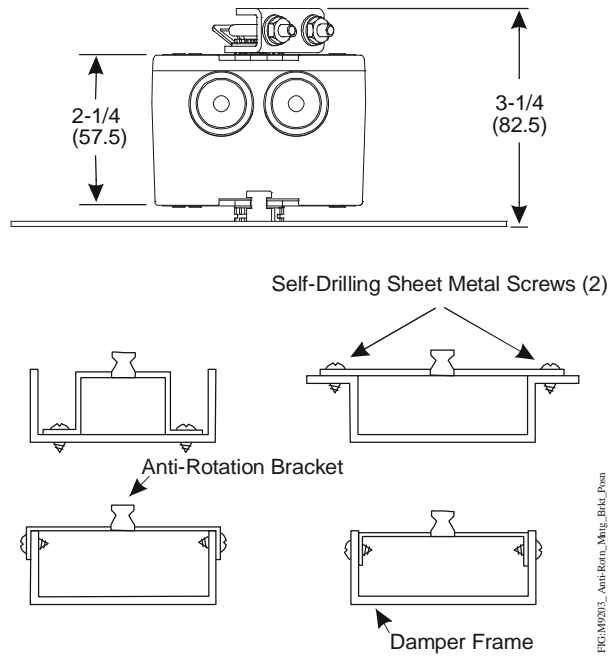

Figure 6: Anti-Rotation Mounting Bracket
2. Bend or cut the anti-rotation bracket to fit the damper frame or duct as illustrated in Figure 6.
- Slide the actuator onto the damper shaft, and position the anti-rotation bracket tab into the slot at the bottom of the actuator as illustrated in Figure 6.